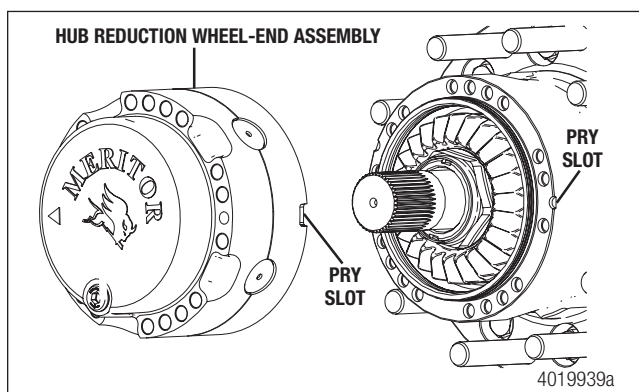

Figure 16
- g. Align the pry slot on the hub reduction wheel-end assembly with the pry slot on the hub and rotor assembly. Place the hub reduction assembly on the hub and rotor assembly and align the bolt holes. Figure 16.